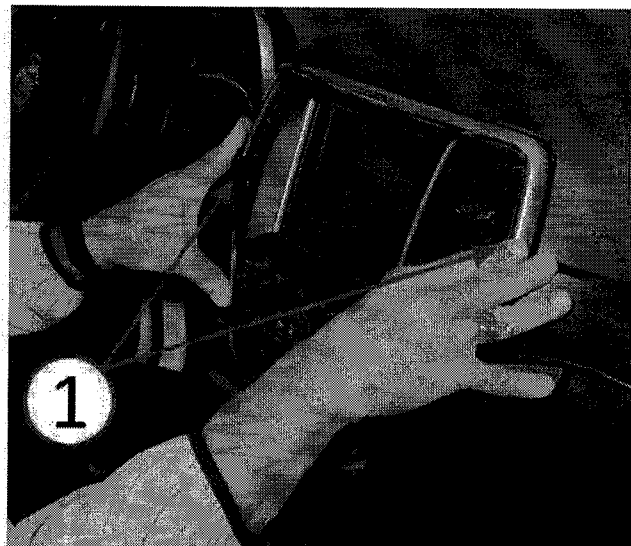

***Fig. 13 ICS Bezel Installation***
18. Gently wiggle the ICS bezel into place ensuring the HVAC outlets properly engage the HVAC ducts (Fig. 13).